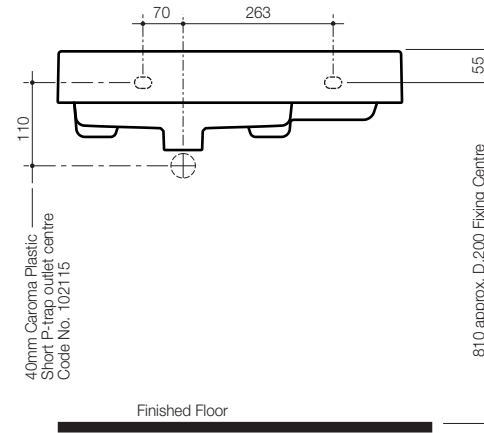

Fig. 1
For timber stud walls, noggins and studs must be positioned at a height to allow for the location of fasteners as detailed in **Fig. 1**.
- 1- Mark fixing screw hole position on finished wall at the recommended height as detailed in **Fig. 1**.